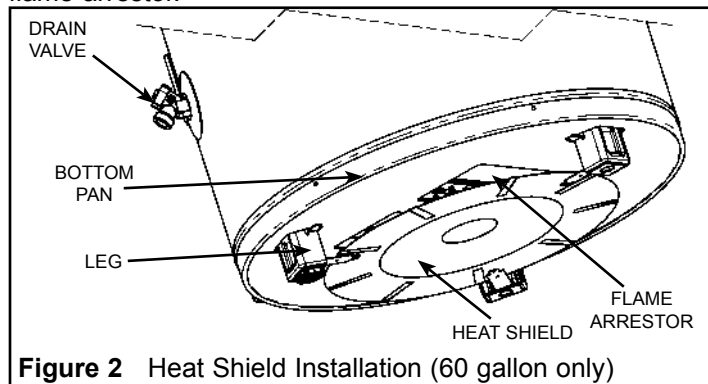

Figure 2 Heat Shield Installation (60 gallon only)
The 60 gallon heater is equipped with a Heat Reflector Shield (see Figure 2). This Shield reflects heat from the High-input heaters to prevent damage to combustible floors. The Shield is held in place by three (3) tabs that rest on the inside of the legs of the water heater. Ensure the Shield is positioned horizontally (parallel to the bottom of the heater) and in the designated position of 38mm (1.5 in.) below the flame-arrestor.